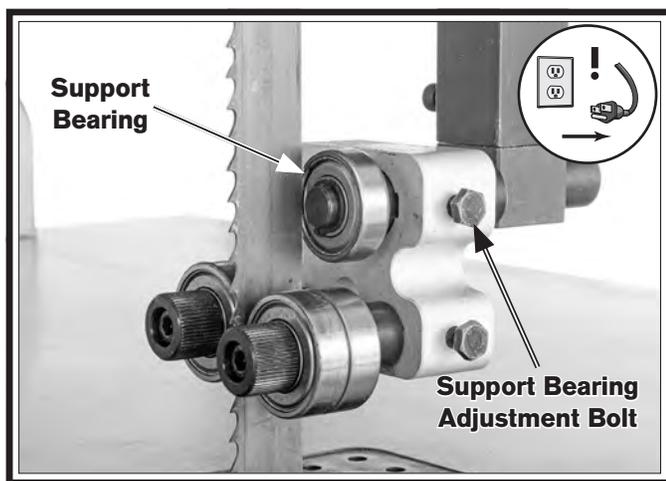

Figure 35. Upper support bearing assembly and controls (guide post cover removed for clarity).
2. Loosen support bearing adjustment bolt (see Figure 35).